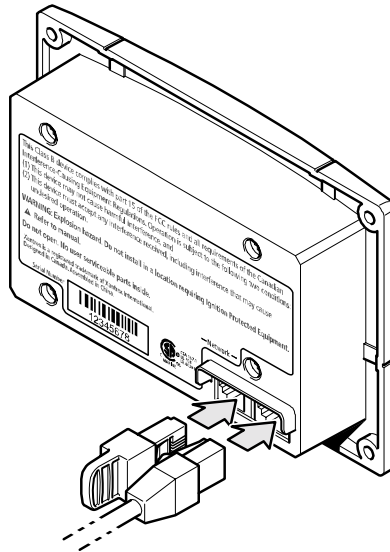

Figure 9 Completing a Daisy-Chain Layout
- ◆ Insert male terminators into the open network ports of the Xanbus-enabled devices at each end of the network. See Figure 9.